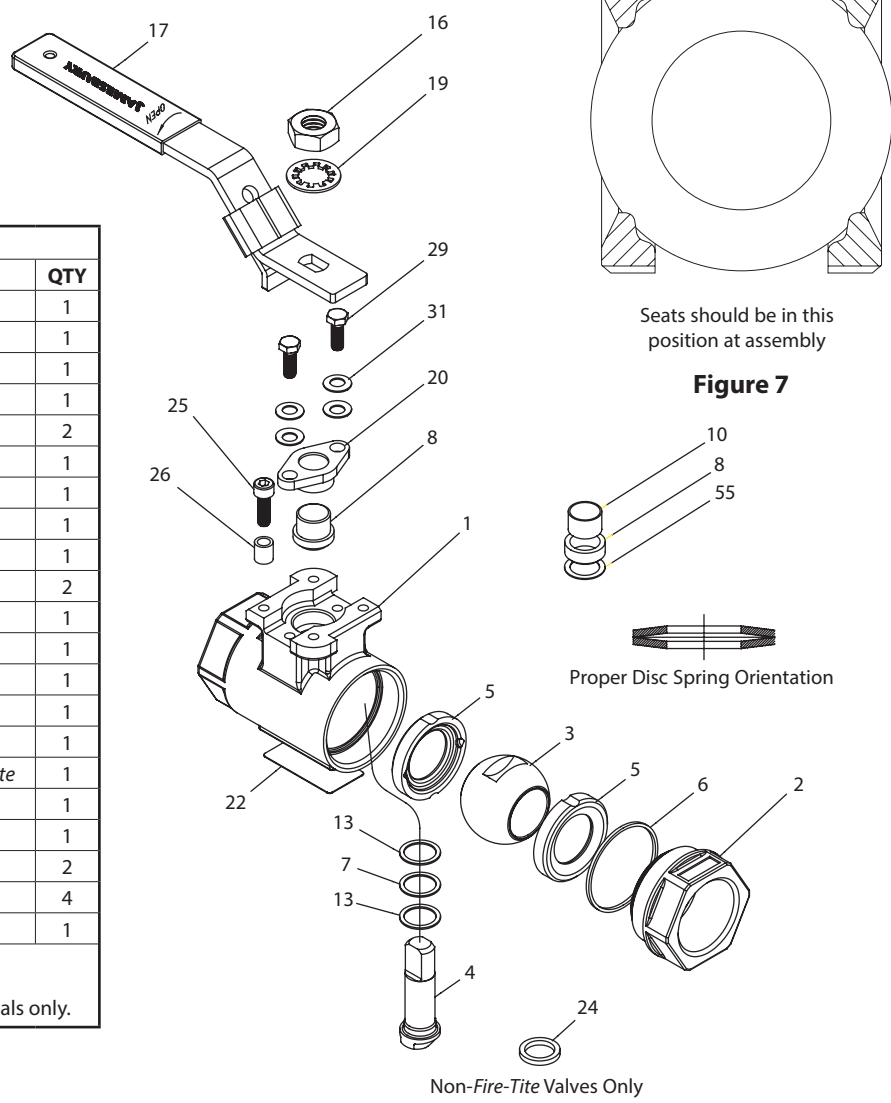

Figure 8
- From **Figure 8**, the ballooned part number, part name and quantity required.